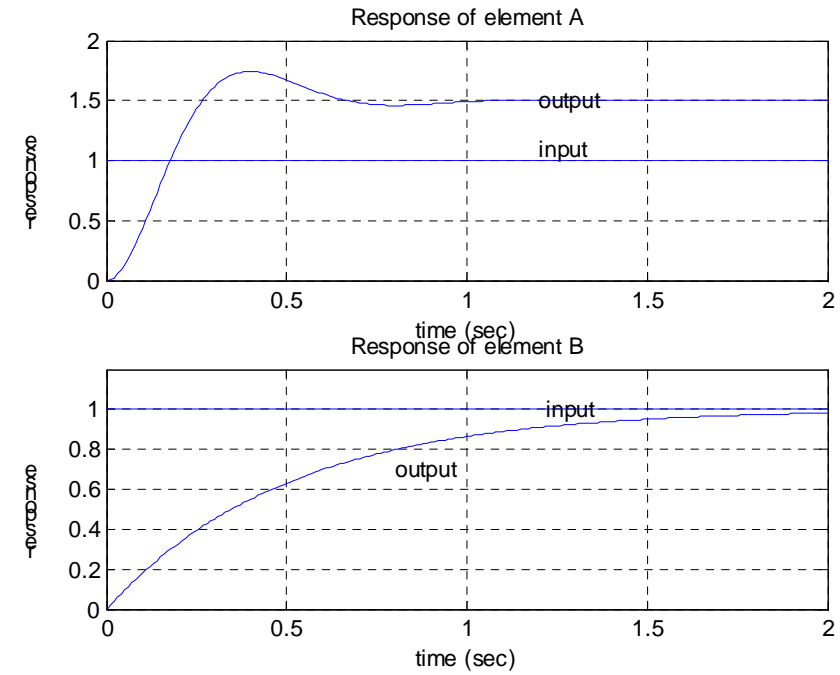

Figure 3a
- The individual responses of two linear control system elements A and B each to a unit step input are given in Figure 3a. Use the response data to estimate transfer functions for A and B. (15%)